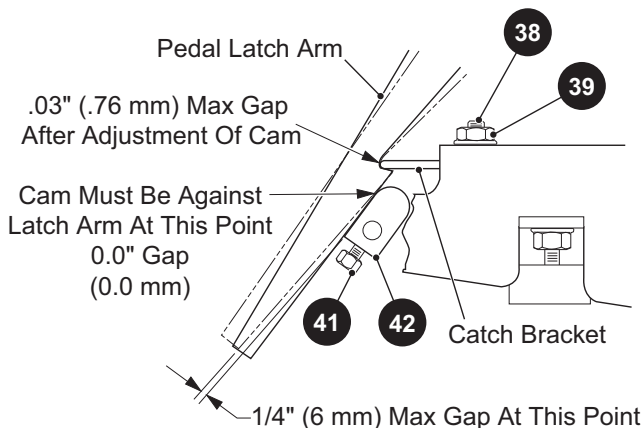

Fig. 29 Catch Bracket and Latch Arm
With the parking brake engaged and fully latched, there should be no gap between the top of the cam and the latch arm (Ref Fig. 29).
- Remove the two bolts (38) and nuts (39) securing the catch bracket to the frame (Ref Fig. 29).
- If required, adjust the kick-off cam (35) (See Kick Off Cam Adjustment on page 107).